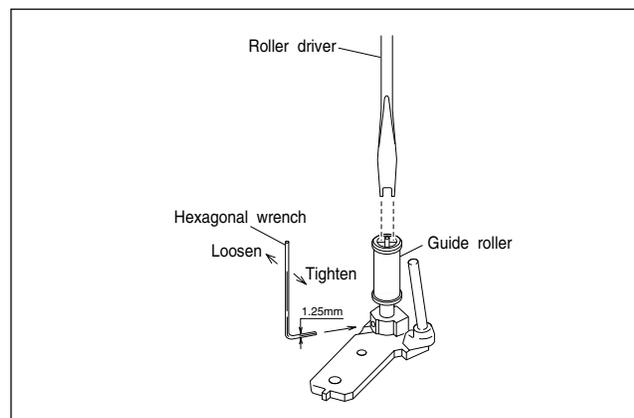

Fig. 2-5-1b
- (5) Using a hexagonal wrench, gently loosen the set screw at the bottom of the pole base assembly. (Be careful not to loosen it too much.) (See Fig. 2-5-1b.)
- (10) After completing adjustment, tighten the set screw at the bottom of the pole base assembly. (Be careful not to tighten it too much.) (See Fig. 2-5-1b.)
**[Perform adjustment step (11) only for the models equipped with SP mode and EP (or LP) mode.]**
- (11) Repeat steps (1) to (10) by using the alignment tape (A2).